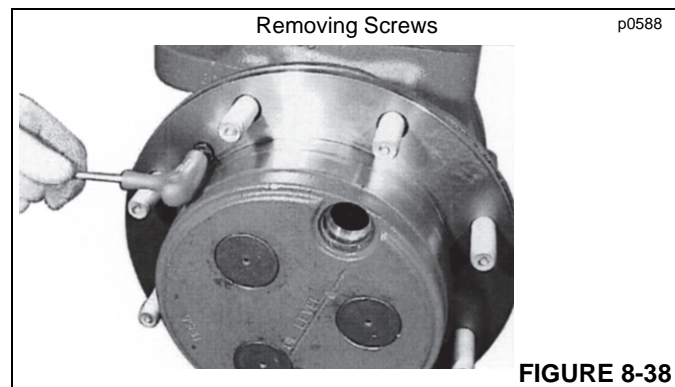

FIGURE 8-38
3. Remove the two screws (Figure 8-38) fastening the planetary carrier to the wheel hub.